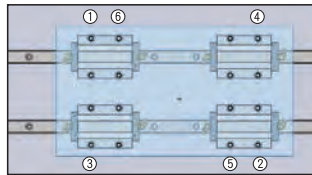

Fig 1.11.11
**CAUTION :** To ensure uniform fastening of the table, tighten the mounting bolts diagonally, as shown in (Fig 1.11.11) in accordance with the numbers.